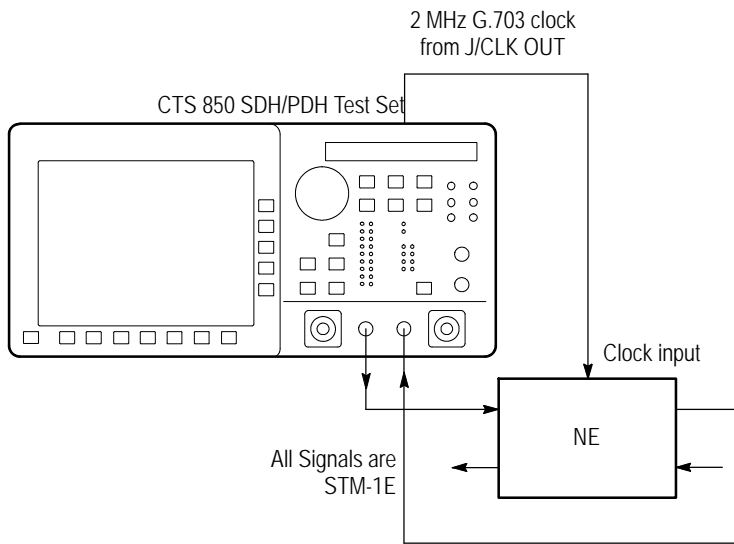

Figure 3 10: Setup to Check Clock-to-Line Jitter Transfer
1. Connect the CTS850 to the network element as shown in Figure 3 10.